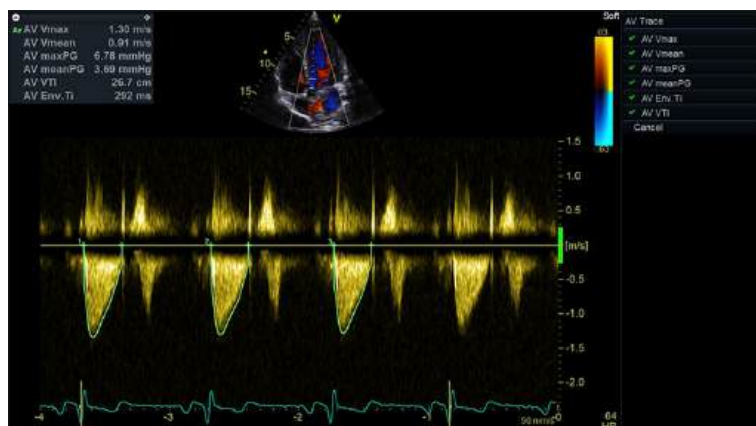

Figure 8-35. Cardiac Auto Doppler Measurement screen
- The generated trace is created and average measurement values are displayed, see Figure 8-35.